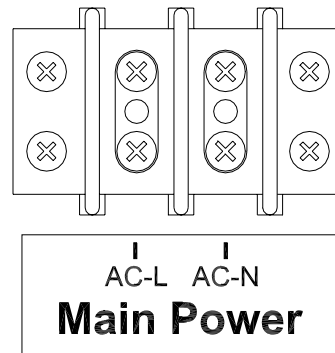

Figure 5 Power Connections
3. Connect the power cable wires to **Main Power** terminal block on the junction chassis according to figure 5.